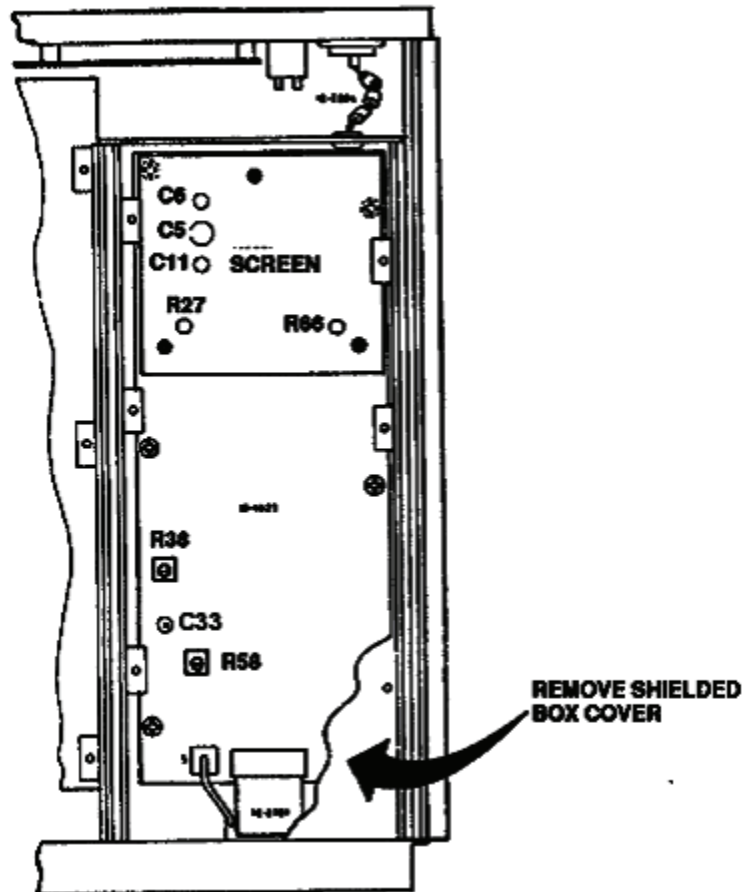

Figure 2. View of underside of module assembly.
3Figure 2.
(1) Set calibrator output for an initial 1.000V, 1 kHz wideband output. Adjust calibrator for TI indication equal to the value recorded in table 3 for 1.000V, 1 kHz, to establish a 1 kHz reference. Press calibrator **NEW REF** pushbutton.
(2) Set calibrator frequency to 10 MHz and adjust A3C33 fig. 2 for value recorded in table 3 for 1.000V, 1 kHz. Repeat steps 8 a (5) through (7) above (R).